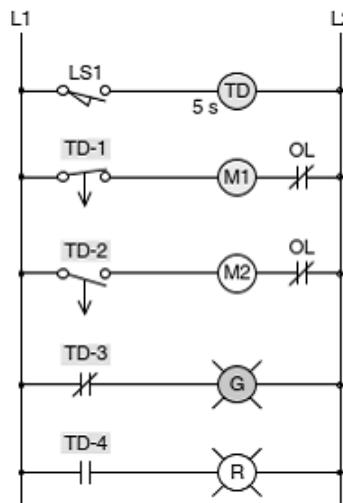

Figure Q4.
- (b) FigureQ4 shows how a hardwired off-delay timer relay circuit with both instantaneous and timed contacts. Describe the operation of the circuit.